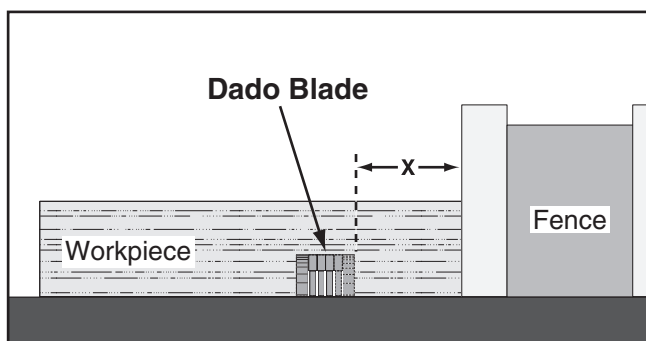

Figure 54. Example of a dado cut with a dado blade.
Commonly used in furniture joinery, a dado is a straight channel cut in the face of the workpiece. Dadoes can be cut using either a dedicated dado blade or a standard saw blade. **Figure 54** shows a cutaway view of a dado cut being made with a dado blade.
2. Adjust the distance between the fence and the inside edge of the blade, as shown in **Figure 54**, to dado the length of a workpiece.